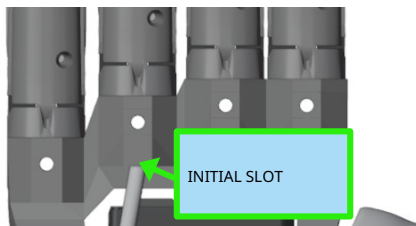

Figure 5.34: Inserting tube into the initial slot (rear view)
1. Insert one end of the PTFE tube into the initial slot (on the back of the skeleton) of the extension tendon (figure 5.34)